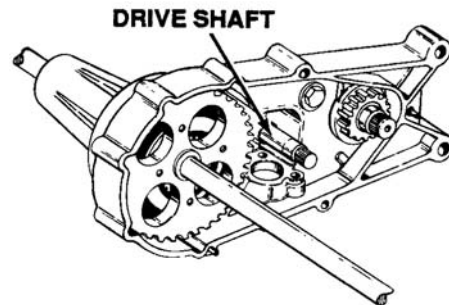

Figure 5-107. Reduction Gear Removal
11. Remove reduction gear (60 and 17 tooth) from drive shaft. See Figure 5-107.